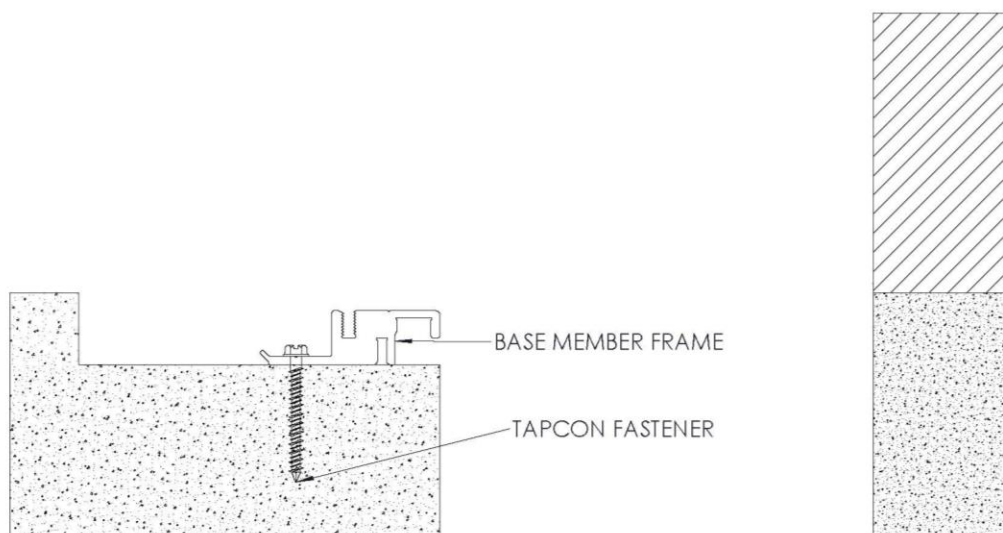

FIGURE 9
2. Position base member frame in blockout per shop drawings. Using the frame as a template, mark and drill 5/32" holes for Tapcon fasteners. Install base member frame to blockout opening with fasteners, making sure not to over tighten. **See Figure 9**